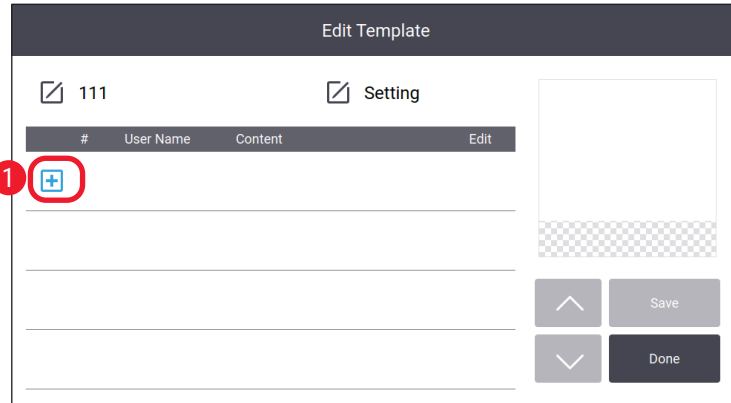

Fig. 44
6. Enter the template name, and tap **OK**. The **Edit Template** screen is displayed (→ Fig. 44).